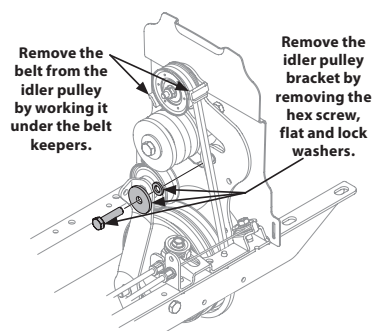

Figure 20
- Remove the idler pulley bracket by removing the 5/16-24 hex screw, flat washer and lock washer, as in Figure 20.